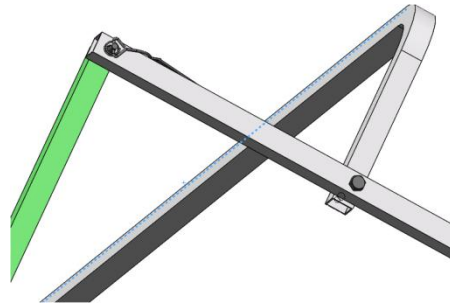

Figure 22
Step 21: Attach the door crossbar (TS305.15) to the door upright left rail(TS305.22) by using one spring lock pin (63282). (**Figure 22**)